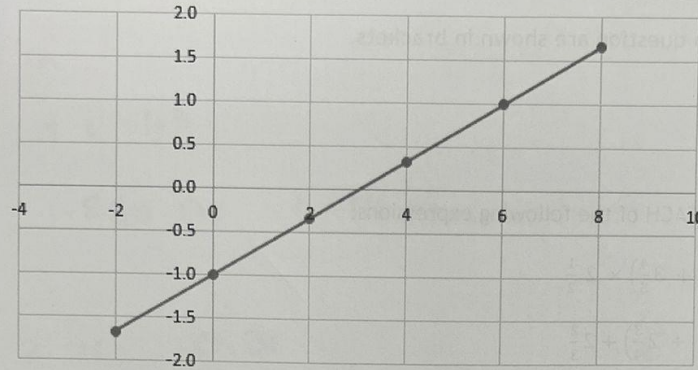

FIG Q3
3. A graph is shown in FIG Q3, where 'Y' values are on the vertical axis and 'x' values are on the horizontal axis.